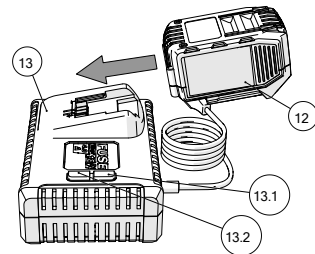

Fig. 5
Figs. 5 - 7 and the procedures set out below, illustrate an example of 2 x Villager 4.0Ah battery packs (12), used in conjunction with the Villager fast battery charger (13). For further information on your particular battery pack